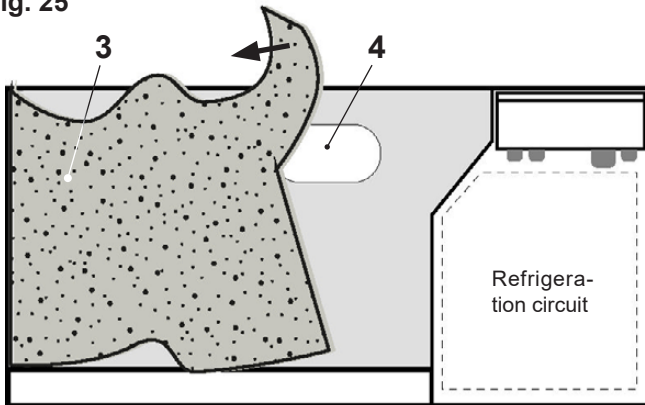

Fig. 26
2. Remove the insulation (3, Fig. 26)
- Cleaning can be carried out through the cleaning opening (4, Fig. 26)